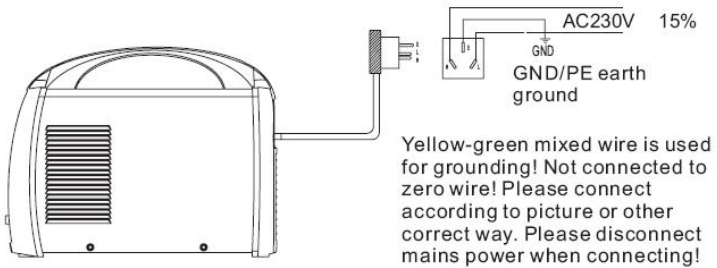

Fig. 3-6-1: Connection between input cable & distribution box
- The connection between input cable and distribution box (Fig. 3-6-1)